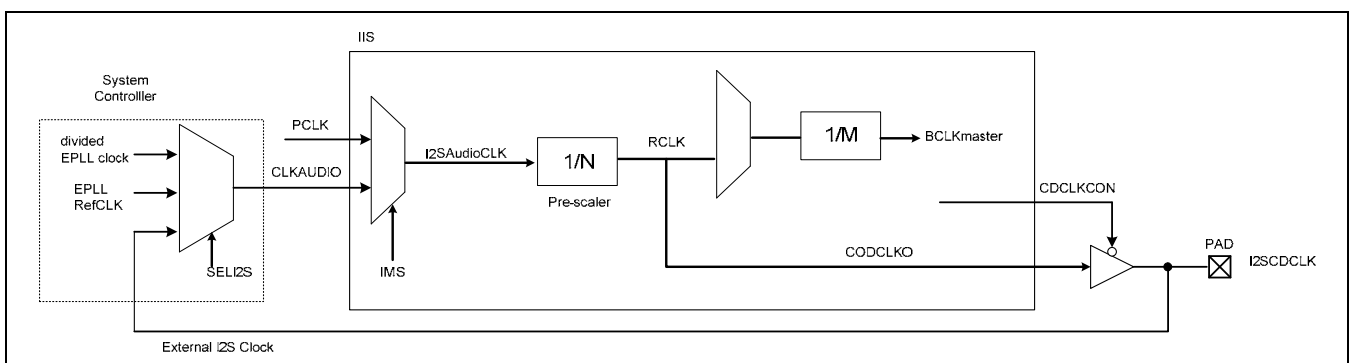

Figure 23-2. IIS Clock Control Block Diagram
Figure 23-2 shows the route of the root clock with internal master(PCLK, divided EPLL clock , EPLLrefClock) or external master(External I2S clock) mode setting in IIS clock control block and system controller. Note that RCLK indicates root clock and this clock can be supplied to external IIS codec chip at internal master mode and slave mode.(when CDCLKCON bit of IISMOD register is 1). At slave mode RCLK doesn't affect to I2SSCLK and I2SLRCLK, but for correct I2S functioning setting RFS, BFS are needed.
2. Now then, you choose clock source. S3C2416 has four clock sources. Those are PCLK, divided EPLL clock EPLLRefCLK and external codec. If you want to know more detail, refer Figure 23-2.